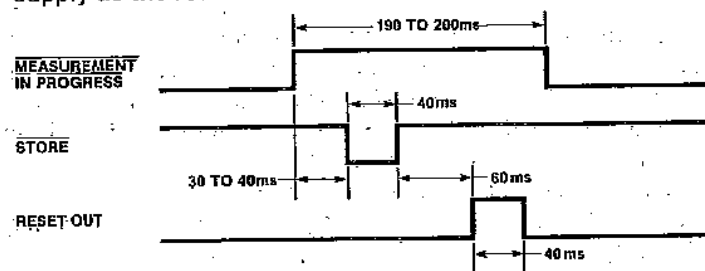

Figure 5: RESET OUT, STORE, and MEASUREMENT IN
**MEASUREMENT IN PROGRESS, STORE AND RESET Outputs** - These Outputs are provided to facilitate external interfacing. Figure 5 shows the relationship between these signals during the time between measurements. All three outputs can drive a low power Schottky TTL load. The MEASUREMENT IN PROGRESS output can directly drive one ECL load, if the ECL device is powered from the same power supply as the ICM7226.